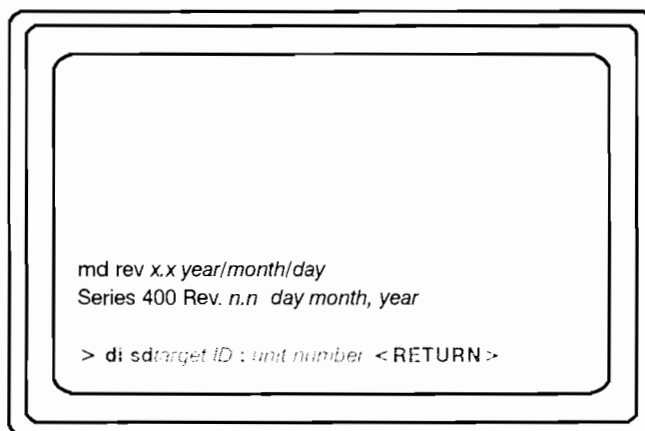

Figure 10-3. Booting from the Disk While in Service Mode
2. If you are unable to boot the system in Normal mode, use the following command (shown in Figure 10-3) to boot the operating system from the Winchester disk while in Service mode: